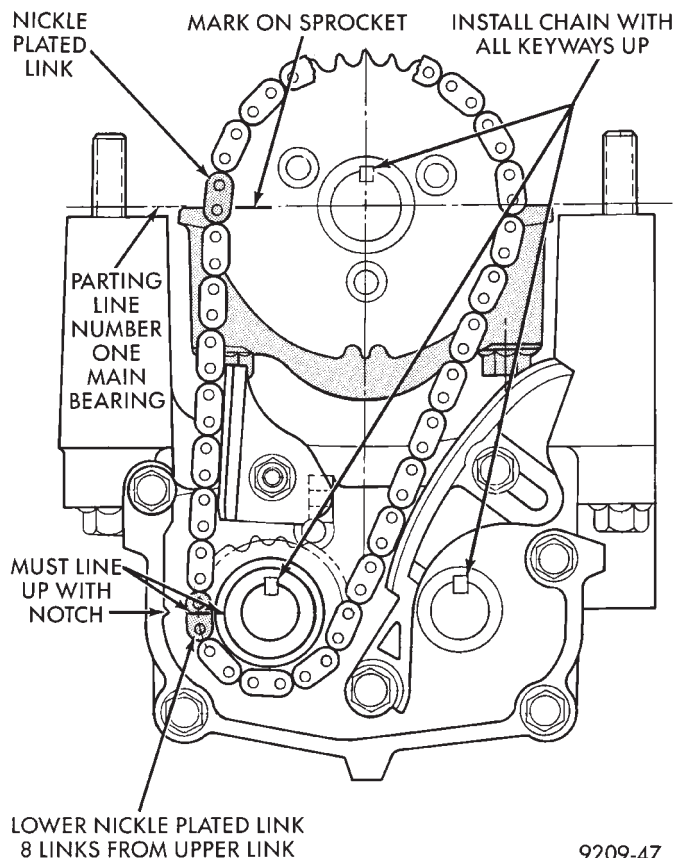

Fig. 21 Balance Shaft Timing
(5) Turn crankshaft until number one cylinder is at Top Dead Center (TDC). The timing marks on the chain sprocket should line up with the parting line on the left side of number one main bearing cap. (Fig. 21).
(6) Place chain over crankshaft sprocket so that the nickel plated link of the chain is over the timing mark on the crankshaft sprocket (Fig. 21).